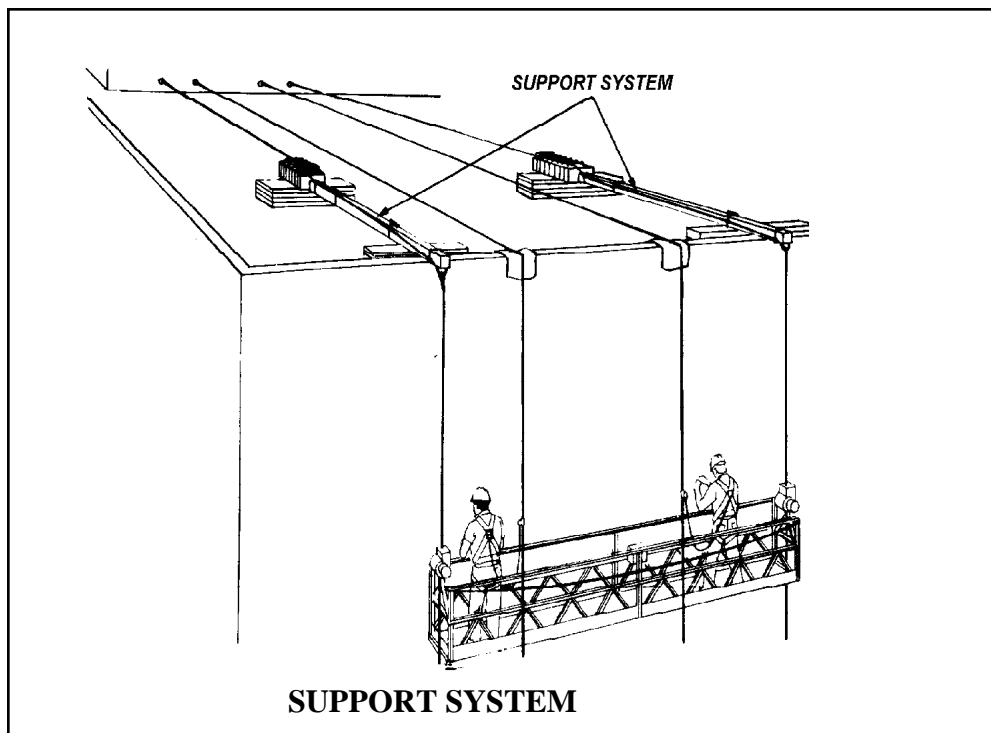

FIG. 1-2
**The Support System holds the suspended equipment** (Fig. 1-2). The Support System may include outriggers and weights, a roofcar, or other holding equipment. It always includes